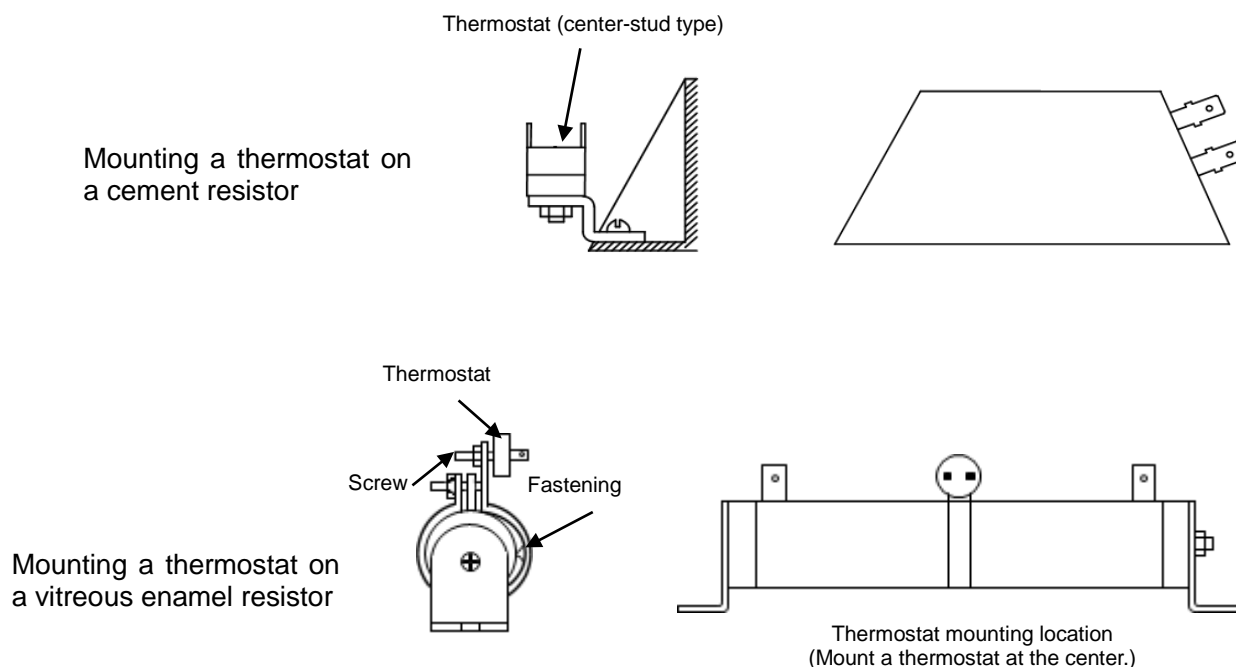

Figure 3-4 Thermostat mounting location
- (1) Use the regenerative resistor supplied as an option, unless otherwise specified.
- (2) The regenerative resistor is used to consume excessive energy that the capacitor in the device cannot absorb, among regenerative energy generated by motor braking when load inertia (GD^2) is large.
- (3) Since heat is generated by regenerative energy, locate the regenerative resistor not to influence other equipment.
- (4) A thermostat is supplied with the regenerative resistor. The contact of the thermostat operates (is opened) when the regenerative resistor gets overheated. Carry out wiring so that the main power supply is shut down when the contact operates. In the contact specifications of the thermostat, the contact current is 15A at 100VAC or 10A at 200VAC. When mounting the thermostat, refer to Figure 3-4.
- (5) The cable length between the regenerative resistor and device shall be up to 3m or as short as possible. As the cable is longer, surge voltage generated by power element switching becomes higher, and the device could be damaged.